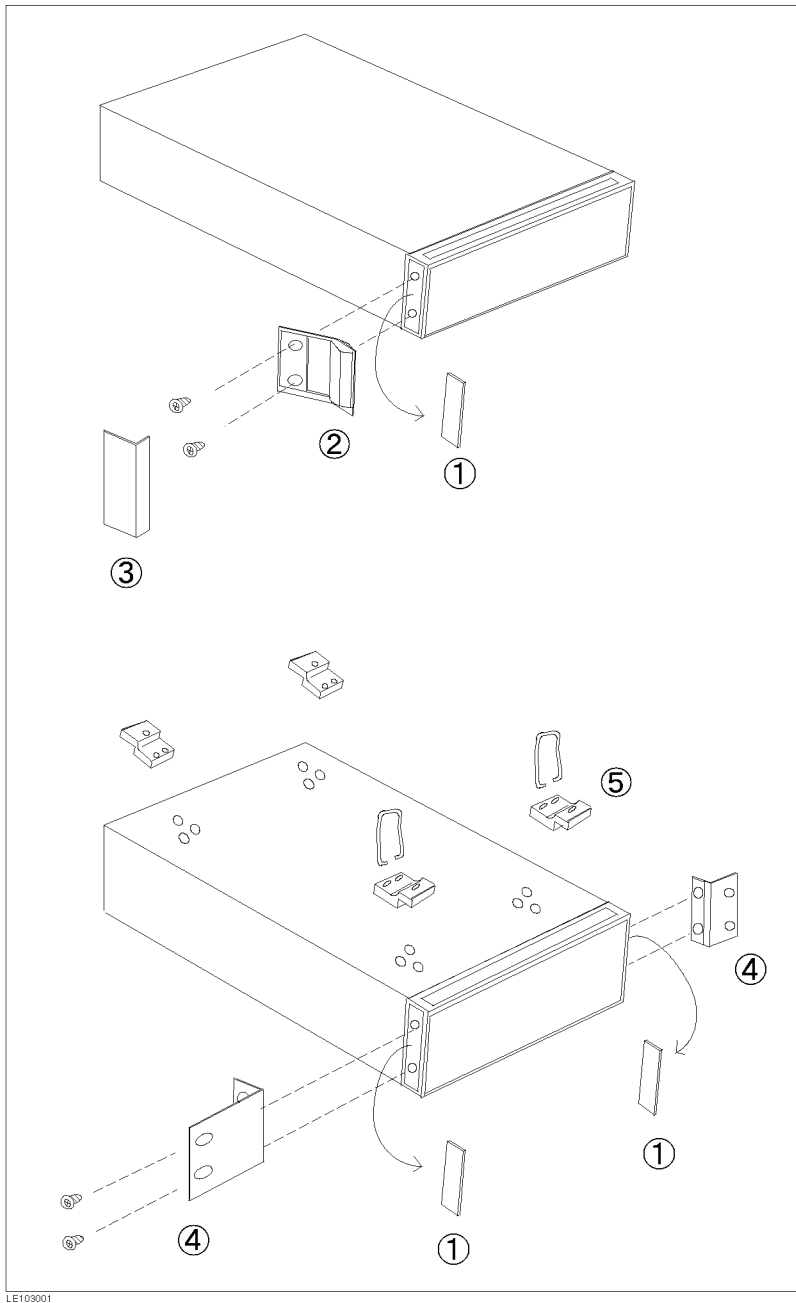

Figure 3-2. Rack Mount Kits Installation
The analyzer can be rack mounted and used as a component in a measurement system. Figure 3-2 shows how to rack mount the E4915A/E4916A.
1. Remove the adhesive-backed trim strips ① from the left and right front sides of the E4915A/E4916A. (Refer to Figure 3-2.)
2. Attach the front handles ② to the sides using the screws provided.
3. Attach the trim strips ③ to the handles.
2. Attach the rack mount flange ④ to the left and right front sides of the E4915A/E4916A using the screws provided.
3. Remove all four feet ⑤ (lift bar on the inner side of the foot, and slide the foot toward the bar.)